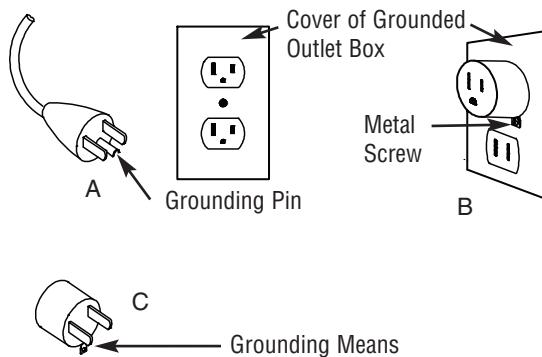

Figure 3
10. This heater is provided with a three blade grounded plug (see Figure 3). Always connect to a properly grounded outlet only.
- 3 This heater is for use on 120 volts. The cord has a plug as shown at A (Figure 3). An adapter as shown at C is available for connecting three-blade grounding-type plugs to two-slot receptacles. The green grounding lug extending from the adapter must be connected to a permanent ground such as a properly grounded outlet box. The adapter should not be used if a three-slot grounded receptacle is available.